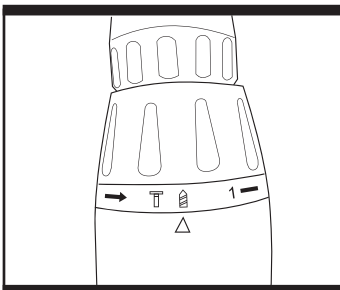

Fig. 9
5. TORQUE ADJUSTMENT (Fig. 9 & 10)